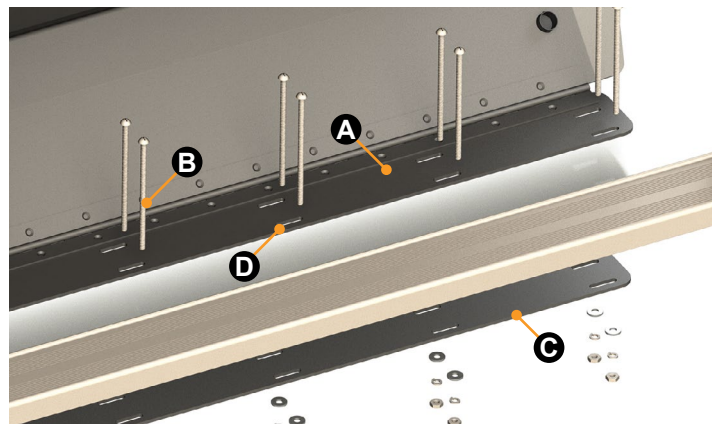

Fig.6
**B.** For laminate flooring, drill two holes straight down with the  $\frac{13}{64}$ " drill bit via the access holes located in the top of the mounting plate. Insert two #10-4" bolts into the mounting plate through the floor through the backer plate (Fig.2B) and secure with the plain washers, lock washers and then the nuts provided. Refer to Figure 6 for backer plate info.